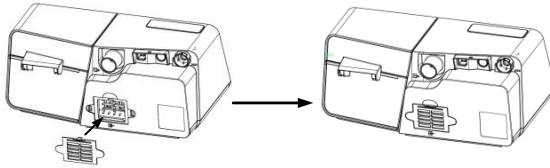

Fig. 10-2
(2) Install the filter cap containing the air filter to the device, as shown in Fig. 10-2.